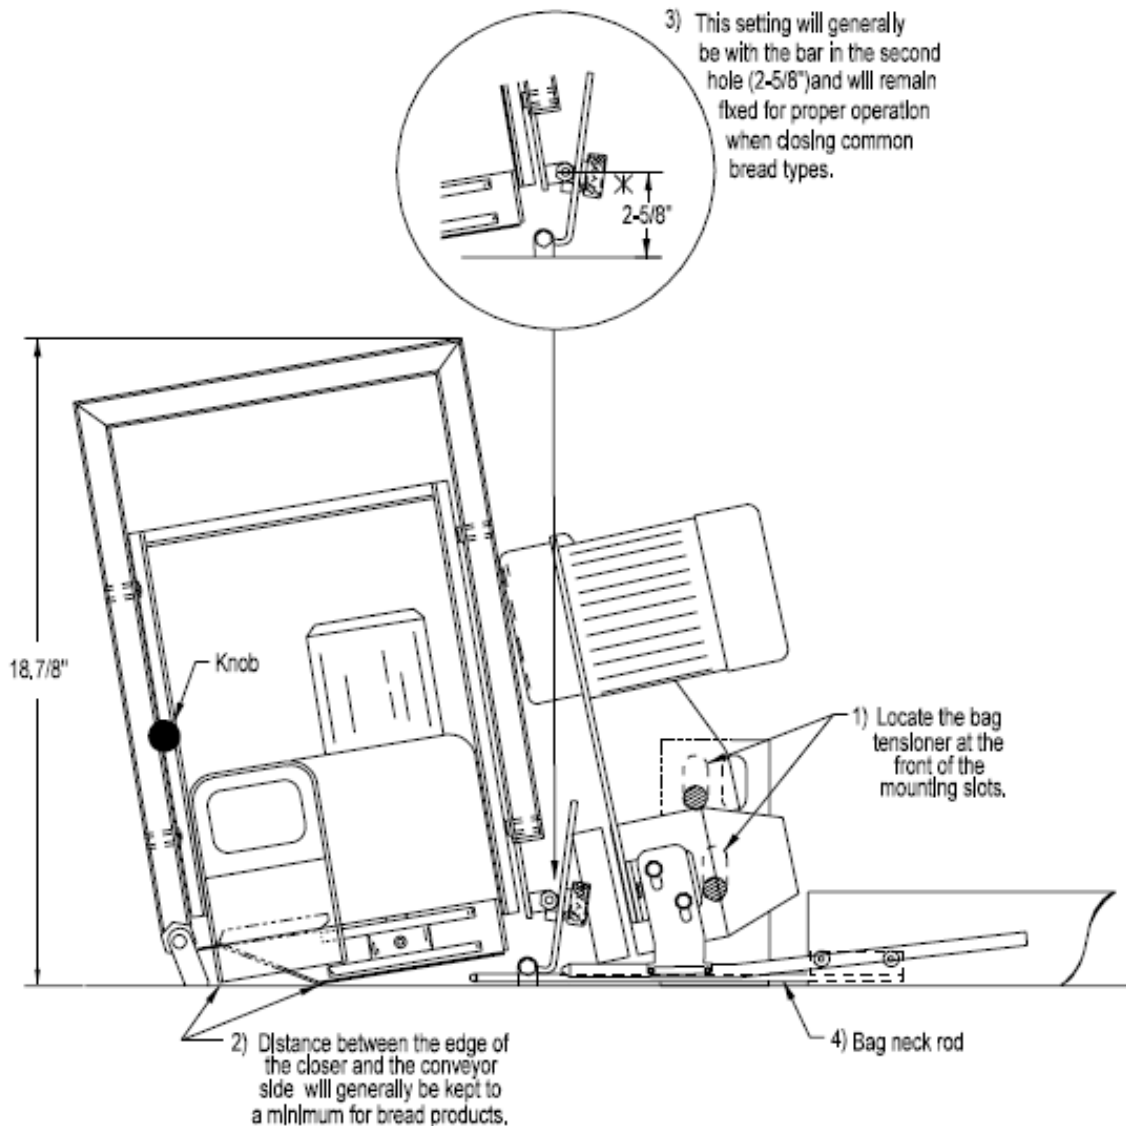

Figure 3.8
C. PACKAGE TIGHTNESS FOR THE SLIDE FRAME MOUNT: (Figure 3.8)